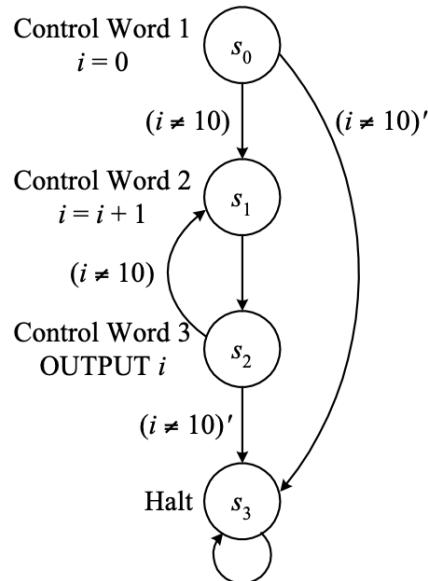

Figure 4: State diagram of control unit for counting 1 to 10
The state diagram of control unit is derived as shown in Figure 4.
1. Write a VHDL file that defines a finite state machine (FSM) depicted in Figure 4. Your code should include a state variable that hold the current state ($s_0 \dots s_3$), a reset input to initialize the state to s_0 and the control signals ($iLoad$, $Clear$ and Out) as outputs to the datapath. Compile the circuit. How many logic elements (LEs) are used to implement your circuit?